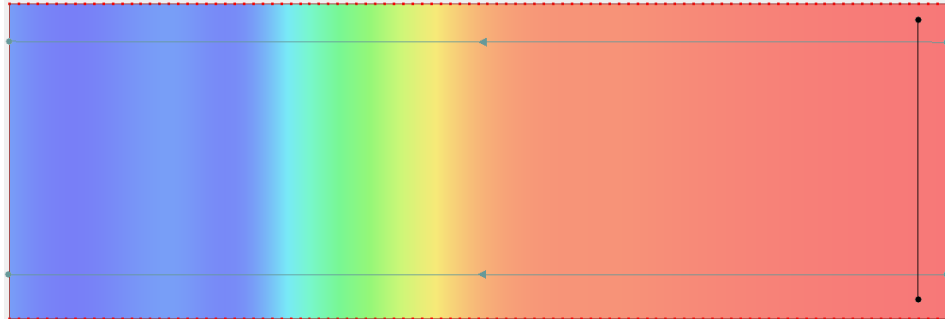

Figure 6 Location of wave maker arc, with transect arcs grayed out
2. Using the **Create Arc**  tool, click out arc crossing the two transect arcs at the deep end of the scatter set to define the wave maker location, as in Figure 6.